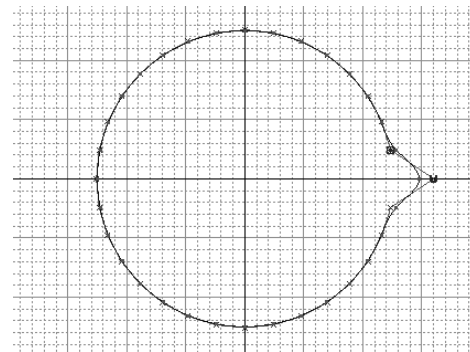

Figure 11-96 Selected CV moved to the new position
12. Drag the selected CV with the ALT key pressed to the position, as shown in Figure 11-96.